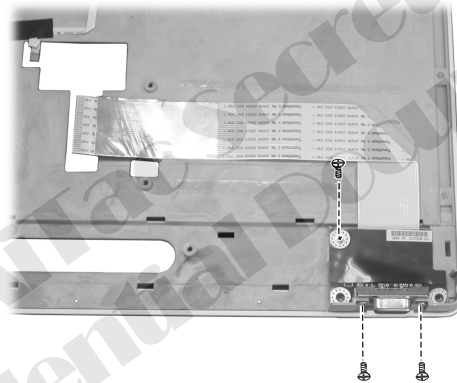

Figure 2-30 Free the transfer board
2. Remove the three screws, then free the transfer board. (Figure 2-30)